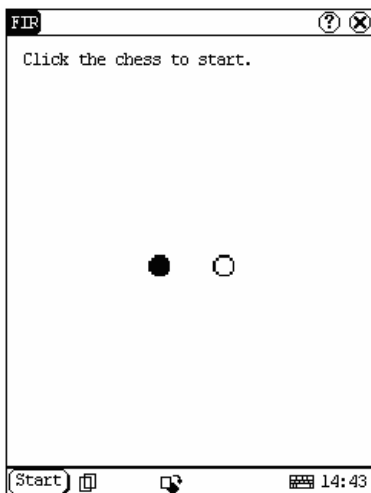

Figure 4-16
- 2) Click black or white chessman to begin the game. The one who select the black chessman will start first. (See Figure 4-16)